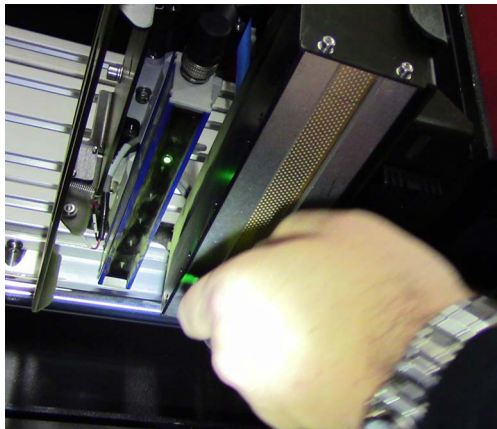

Figure 5-12 Scraping LED lens surface, (Left) and Scraper (Right)
4. If there are particles stuck to the glass, carefully remove them using a scraper with blade, Figure 5-12, then wipe both surfaces again.